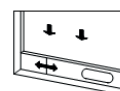
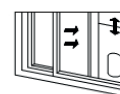

Fig. 2
Fig. 3
- Half open the window, and mount the window-sealing plate assembly to the window (as shown in Fig.2 and Fig.3); the assembly can be placed in horizontal and vertical direction.